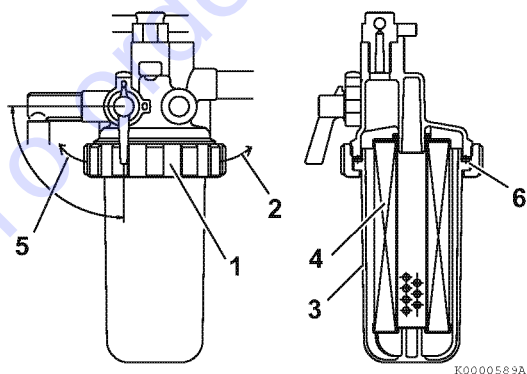

Figure 15
3. Turn the retaining ring (1, **Figure 15**) to the left (5, **Figure 15**).
4. Carefully remove the cup (3, **Figure 15**). Pour the fuel into an approved container and dispose of waste properly. Hold the bottom of the cup with a shop towel to prevent the fuel from dripping. Wipe up any spills immediately.
5. Remove the fuel filter element (4, **Figure 15**) by pulling it down.
8. Check the condition of the O-ring (6, **Figure 15**). Replace if necessary.
9. Install the cup to the mounting flange and turn the retaining ring (1, **Figure 15**) to the right (2, **Figure 15**). Hand-tighten only.